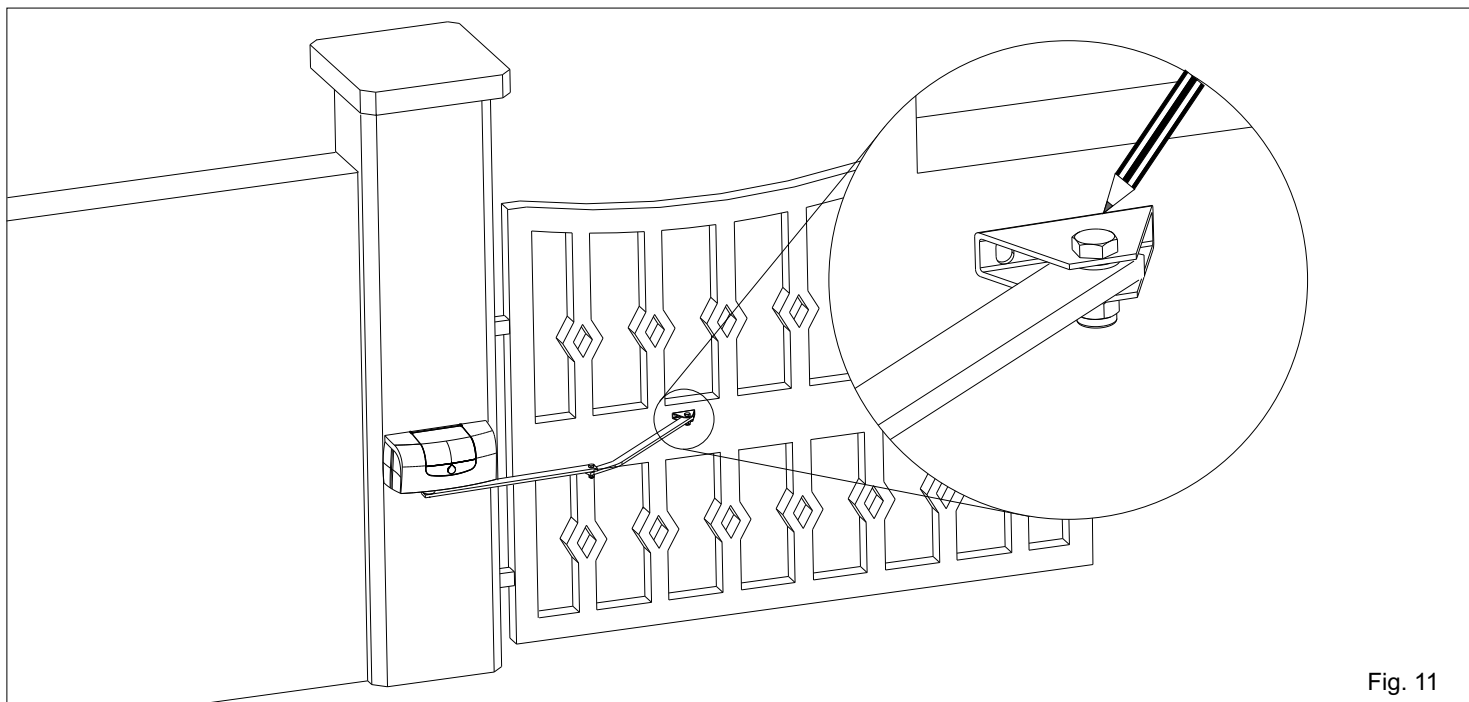
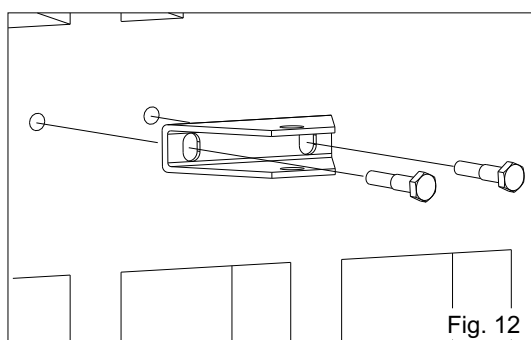

Fig. 11
Fig. 12
- Extend the articulated arm (Fig. 11), lean the adjustable front bracket on the gate and make two marks on the center of the two holes (Fig. 12) respecting the measure in Fig. 5.
- Perforate the leaf and fix the front bracket with the screws (Fig. 12)